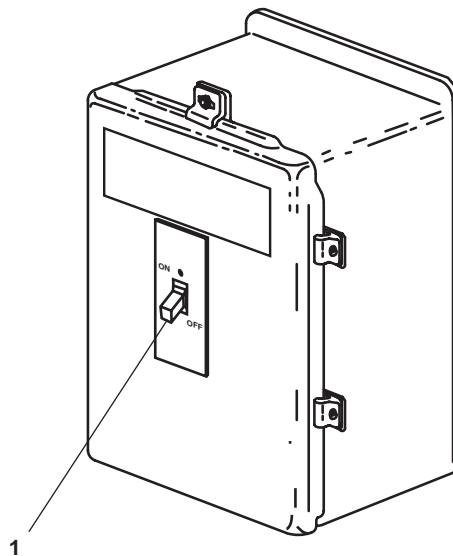

Figure 12. Workshop Exhaust Fan Motor Controller
- a. Place the ON-OFF switch (figure 12, item 1) in the OFF position.